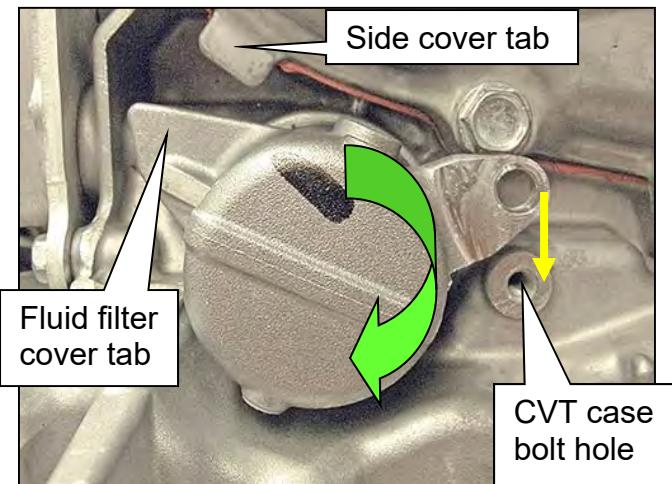

Figure 223
- Locate the tab of the fluid filter cover near the tab of the side cover as shown in Figure 223.